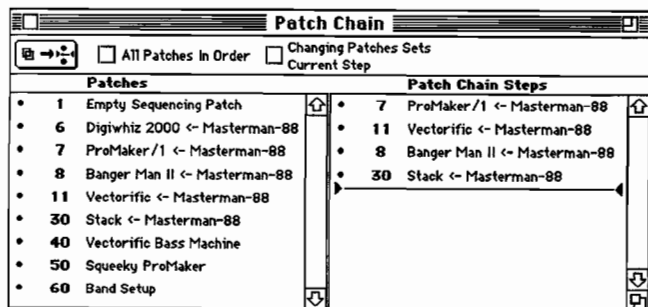

Figure 9-15: Typical Patch Chain Window
- Look at the Patch Chain window shown in Figure 9-15. Notice the position of Patch #8 in both the Patch Document List and the Patch Chain List.